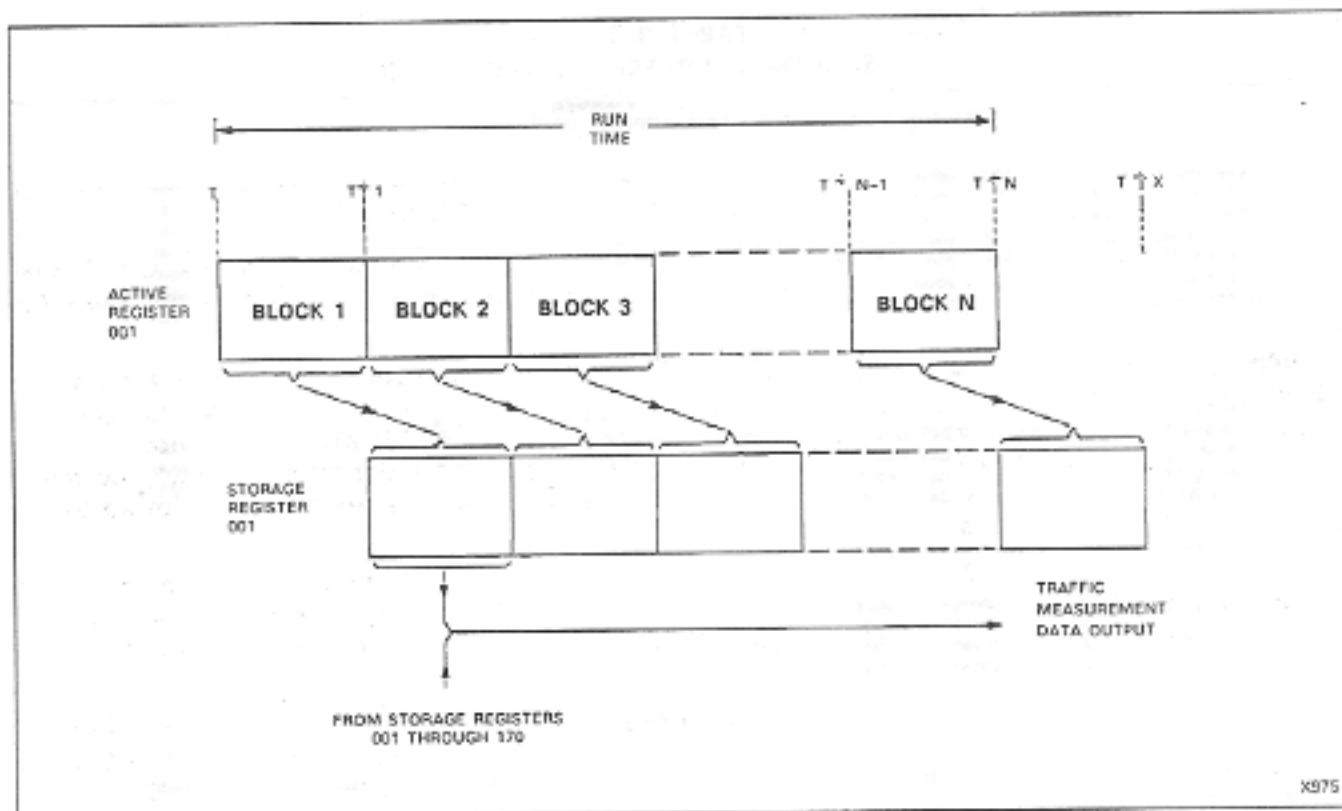

Fig. 2-1 Traffic Measurement Collection and Output Diagram
2.04 Referring to Fig. 2-1 and considering Active Register 001, data is accumulated during the first hour (Block 1), and, at the end of that block, transferred to Storage Register 001 with the Active Register count reverting to zero. The data is held for 1 hour, during which time it may be accessed and is then replaced by the data count accumulated during Block 2 time. If the run time is less than 24 hours, the last block transferred will remain in the storage register up to 1 hour after the run commences the following day.
3.02 Standard Mode collection is described in 2.04 and illustrated in Fig. 2-1. It represents the method of collecting data on active registers, and replacing the contents of the storage registers at the end of the hourly run with the new active register values.